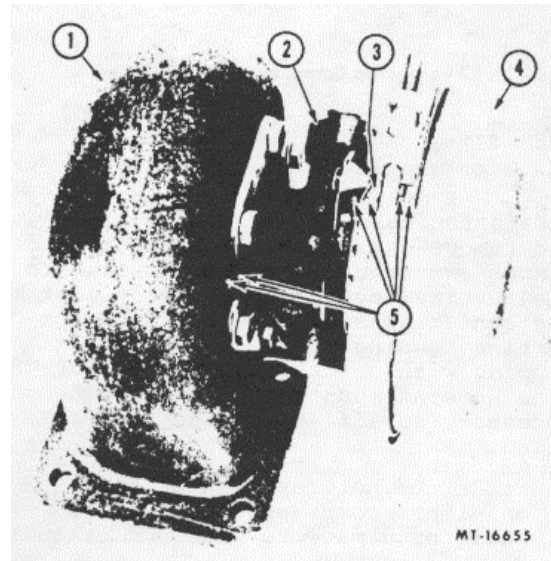

Fig. 11. Related Positions of Parts
3. Mark the assembled position of parts (Fig. 11) as follows: